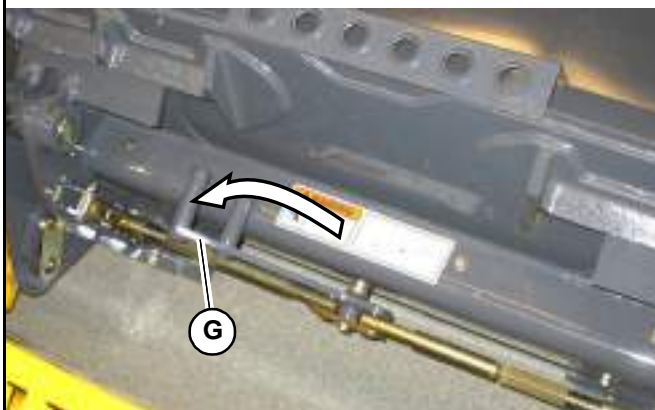

Fig. 63 – Attachment Hitch – Locked
- Lower the lift arm so tabs (J) on the top of the attachment plate are aligned just under hooks (K) on the back of the attachment.
- Tilt the attachment plate back until tabs (J) on the top of the attachment plate are engaged against hooks (K) on the back of the attachment.
- Raise the lift arm slightly until the attachment is hanging from hooks (K) and tabs (J) are firmly inserted into the hooks. Tilt the attachment plate back, if necessary, so the back of the attachment is resting flat against the attachment plate.
- Place the attachment lock into the locked position (Fig. 63):
- Power-A-Tach® system hitch – Press the top of hitch lock switch (I) until safety flags (H) have moved all the way out.
- Manual attachment hitch – move hitch lock lever all the way to the left (G).
To prevent unexpected release of the attachment from the hitch, be sure to properly secure the hitch latch pins by hitch lock lever (G, Fig. 63) all the way to the left (manual All-Tach® hitch) or by ensuring that the safety flags (H, Fig. 63) are all the way to the outside (Power-A-Tach® hitch).